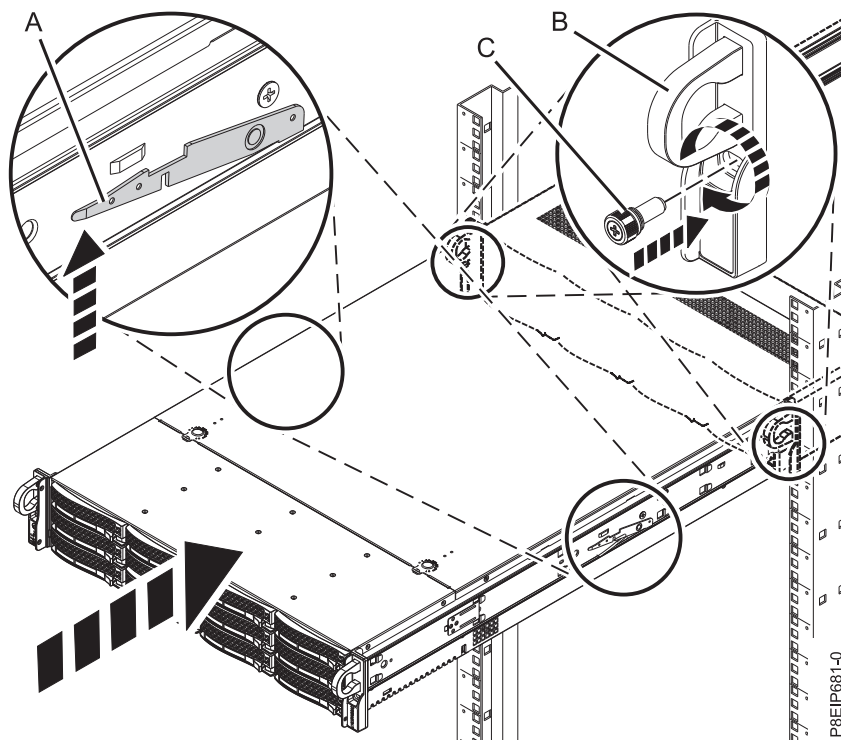

Figure 68. Placing the system into the operating position
4. Release the rail safety latches (A) by lifting them upward, as shown in Figure 68 on page 107, then push the system fully into the rack.